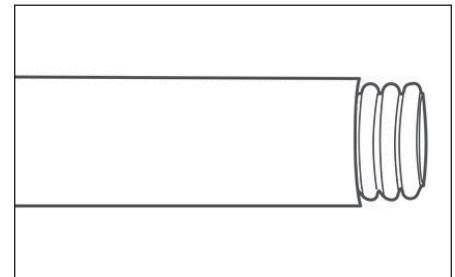

Figure: 4-7
- 2. STRIP JACKET:** Using a utility knife with a sharp blade, strip back the jacket so that after making the final cut you will have THREE corrugation peaks left exposed for straight fittings and couplings and FIVE corrugations are left exposed for termination fittings. This is critical for proper insertion of pipe into fitting. Figure: 4-7. Make a final cut using full circular rotations in one direction, gradually tightening roller pressure after each revolution until a clean cut is obtained. Avoid overtightening roller as this may flatten the crowns of the corrugations and interfere with a gas tight seal. Inspect pipe for a clean cut without tears or distortion.